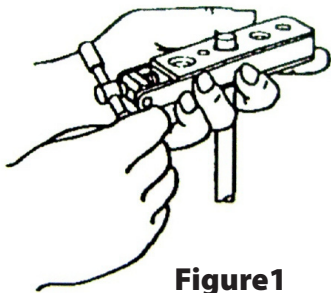

Figure1
5. Loosen die clamp screw to allow separation of the sliding flaring segments. See (Figure1).